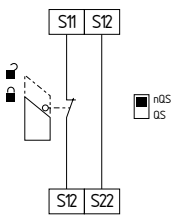

Fig. 10
**Single-channel guard door monitoring circuit with interlocking devices to ISO 14119 (Fig. 10)**